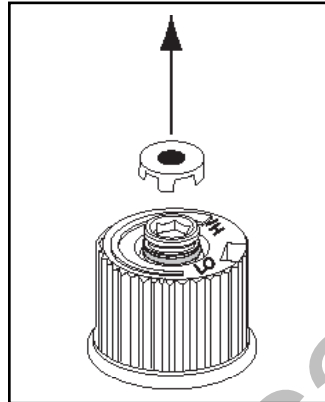

Figure 73
- Remove the black protection cap by hand. (Figure 73)